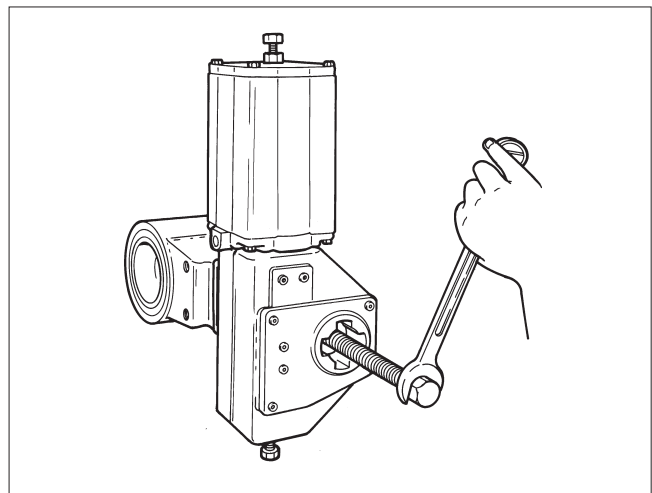

Fig. 8 Removal of the actuator with an extractor
2. Detach the actuator from the bracket (5) by unscrewing the fixing screws.
3. Pull the actuator off the shaft by using a special extraction tool, Figure 8. Prevent the shaft from pressing the ceramic ball when removing, e.g. by gripping the shaft with self-locking pliers (don't damage the shaft) .